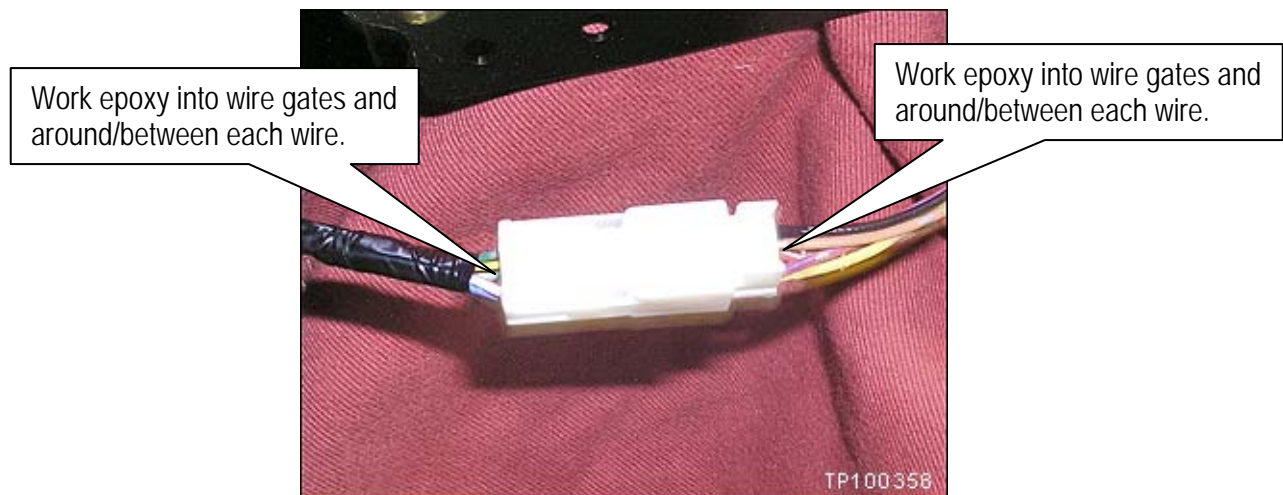

Figure 6a
- Apply the epoxy to the back side (wire gates) of the BTS connector (see Figure 6a).